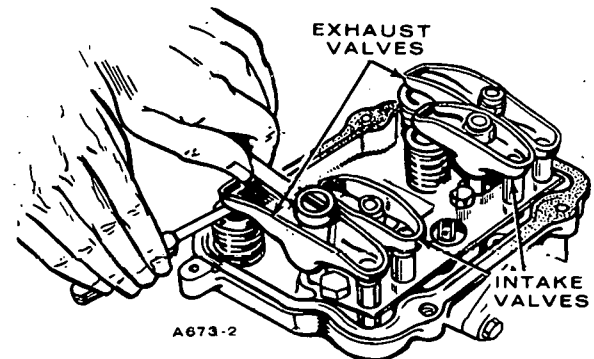

FIGURE 49. VALVE CLEARANCES
4. Using a feeler gauge, check the clearance between the rocker arm arm and the valve (see Figure 49). Increase or reduce the clearance until the proper gap is established adjusting with the lock nut which secures the rocker arm to the cylinder head. Correct valve clearance is in *DIMENSIONS AND CLEARANCES* section.